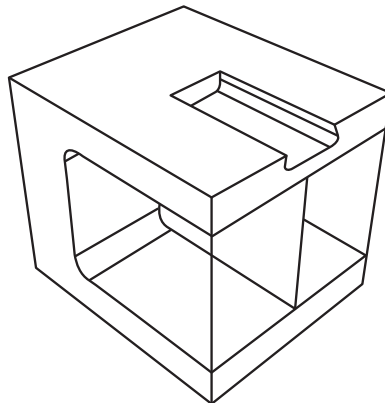

Figure 11-6 Round features.
5. The edges of the cut are rounded. The user selected the edges to round and provided the radius of the round, as shown in Figure 11-6. The radius is the modifiable parameter that defines the round feature.